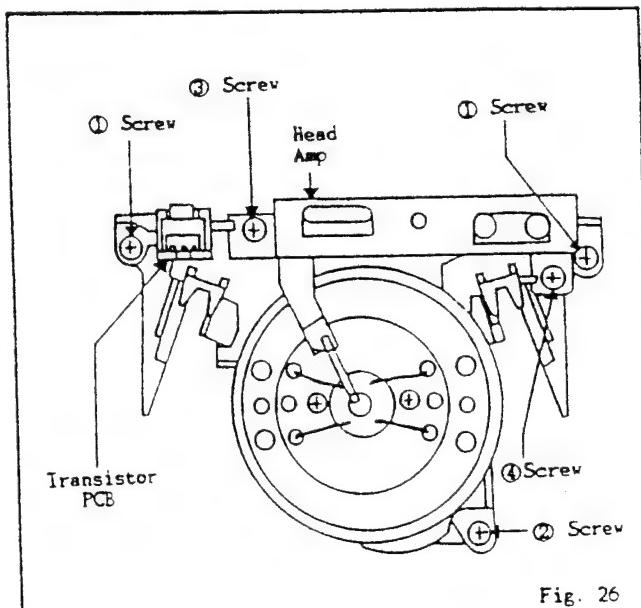

Fig. 26
1. Remove the 2 screws (Bind M3x6 ③, ④) held the Head Amp, then pull out the Head Amp from the cylinder.
6. Remove the cylinder unit by taking out the screws ① and ② . (Fig. 26)